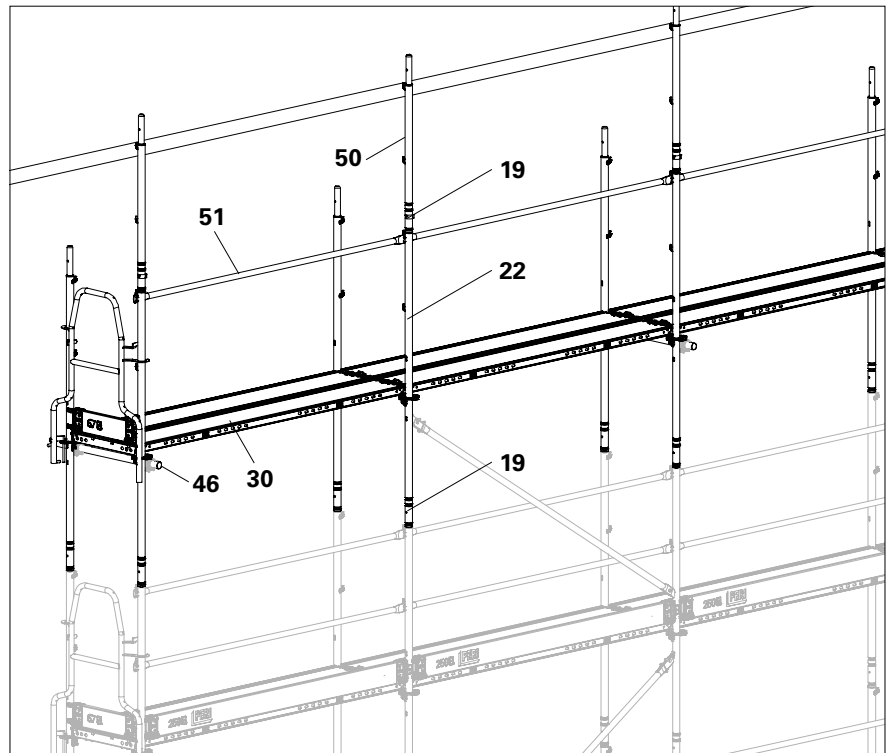

Fig. D2.01
1. Assemble top scaffold level with Easy Standards (22) and Guardrail Post in Advance EPG (51). Insert Steel Decks EDS (30).
2. Attach Guardrail Post EVP (50) to outer Easy Standard (22).
3. Connect the guardrail post (50) and the outer tube with a locking pin (19) so that they are tension-proof. (Fig. D2.01)
- Anchor every second frame column with Wall Ties UWT (46) to the inner and outer legs; alternatively, anchor with triangulated ties to the inner standard.